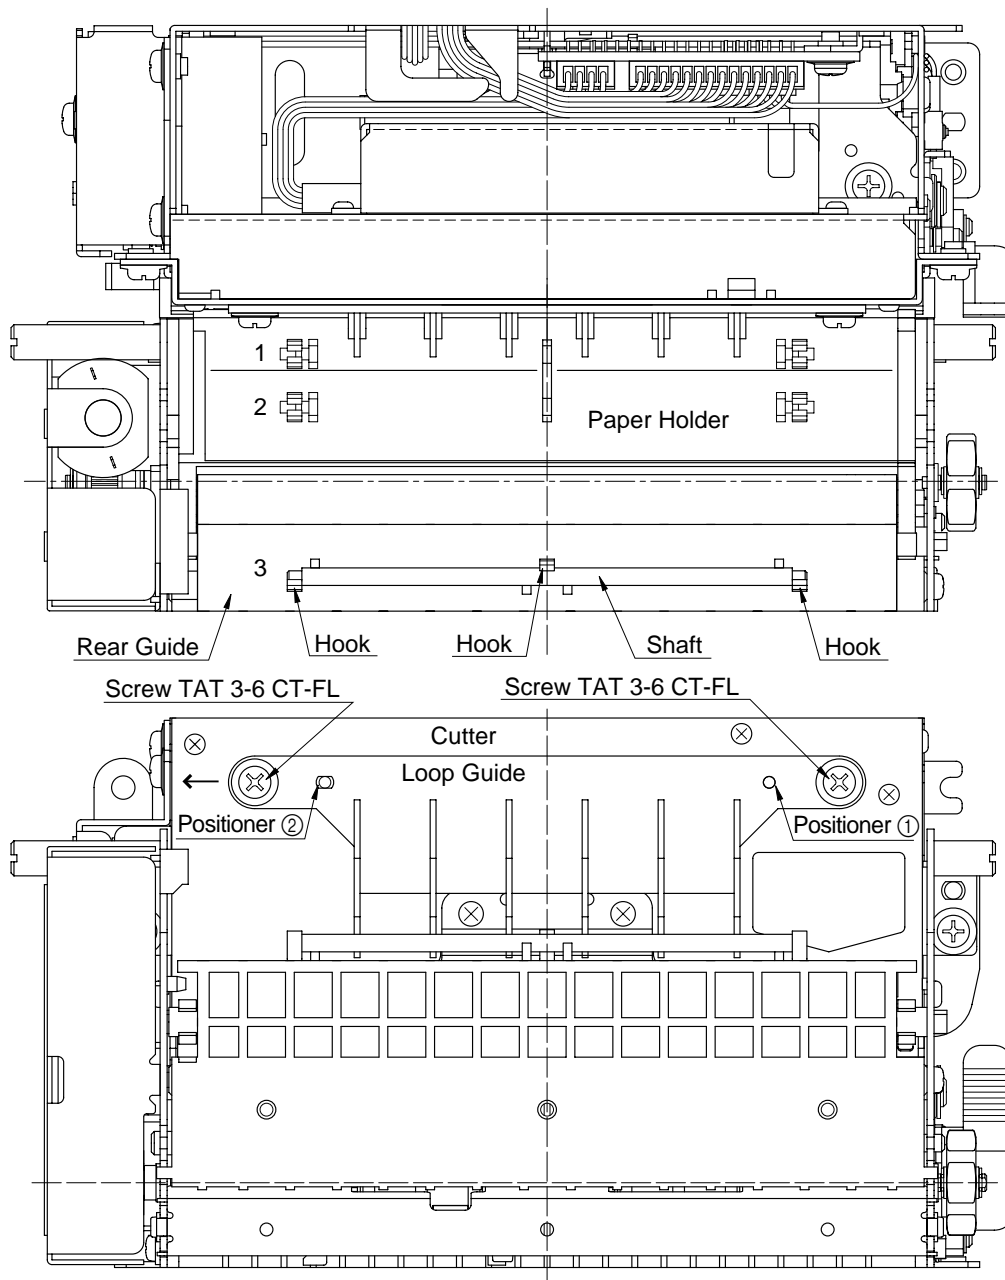

Figure 8-2
- **Paper thickness: Min. 0.065 to Max. 0.10 mm. (See Figure 8-2)**